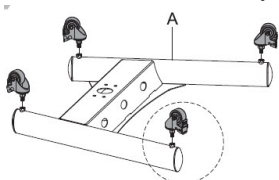
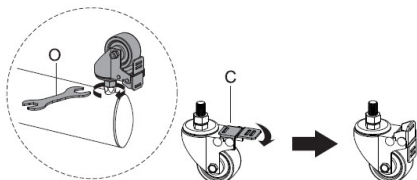

Figure 1
Figure 2
1. Flip the **Base (A)** upside down and place it onto a clean and flat surface. (Figure 1)
2. Insert the four **Caster (C)** into the holes, located in the bottom of the **Base (A)** and tighten, using the **Wrench (O)**.
3. Flip the **Base (A)** upright.
4. Lock the **Caster (C)** by pressing down on the **Brake**, located on top of each of the four **Caster (C)**. (Figure 2)
5. (For uneven surfaces - adjust the height of the **Caster (C)**) Flip the **Base (A)** upside down and use the **Wrench (O)** to adjust the **Nuts** located on each **Caster (C)**.